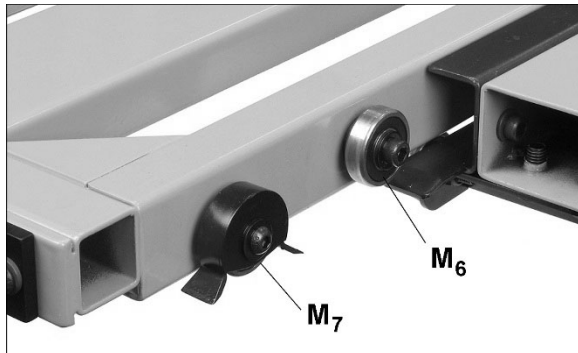

Figure 7-18
12. Adjust front bearing (M_6 , Figure 7-18) in similar manner, until it just contacts inner rail.
13. If needed, adjust scraper bearings (M_7 , Figure 7-18) at front and back so that scrapers just contact inner rail channel.